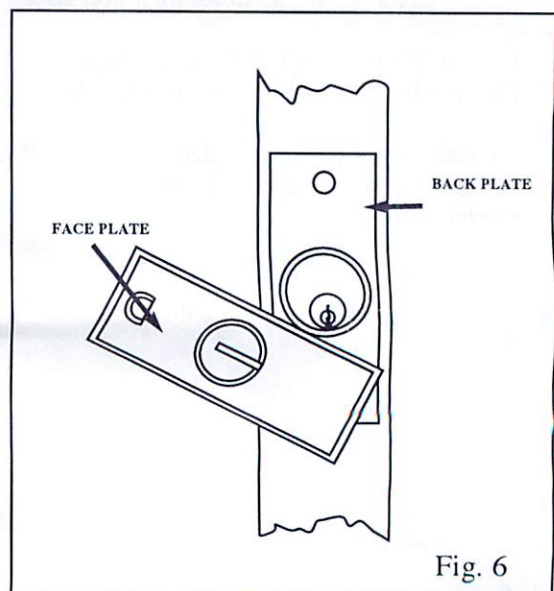

Fig. 6
12. Rotate the face plate as shown in Fig. 6. Re-install lock mechanism and cylinders, aligning cylinders in original positions. Lightly lubricate plug protector (item 3) and insert in large hole from the back side of face plate.